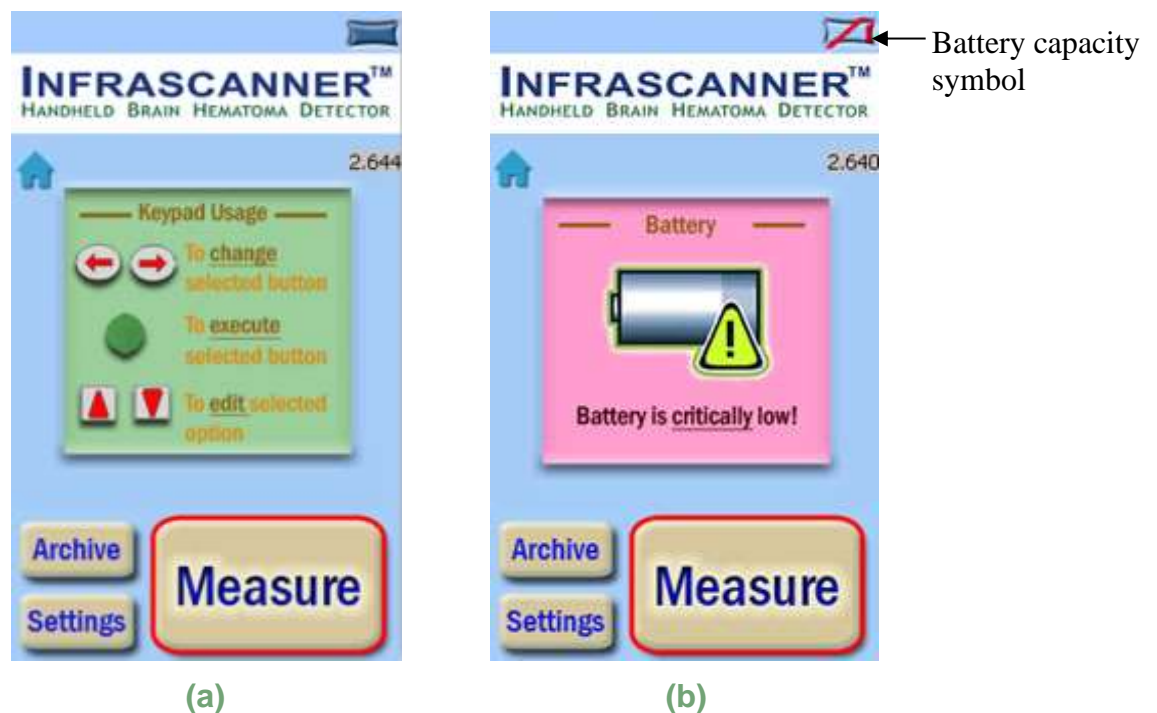

Fig 3-6: Main Screen (a – standard, b – when the battery is low)
2. Press the “Measure” button, as shown in Figure 3-6. The indicator in the upper right corner of the screen shows the battery capacity status.
1. In the Main Screen (Figure 3-6), click on “Archive” button.
In the Main Screen (Figure 3-6) click on “Settings” button to reach the Settings Screen (Figure 3-15), which allows changing some of the different parameters of the Infrascanner. Users will not need to access most of the technical parameters of the Infrascanner, and they exist for use by technical support personnel. Technical parameters can be accessed by selecting the “Technical” button.